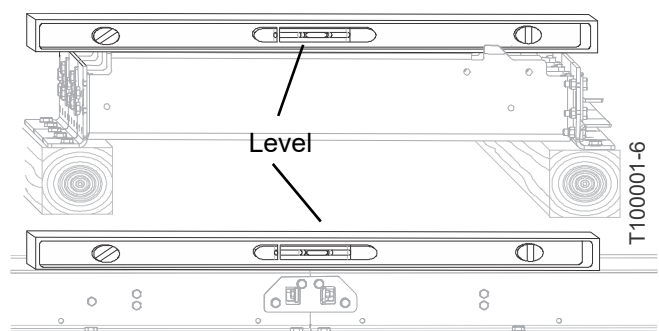

FIG. 1-6
2. Use a 4-foot level (or laser level) to level the bed in all dimensions. See FIG. 1-6.